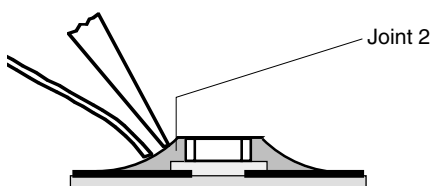

Fig. 5
5. step: Solder the free end of the CHIP and resolder the first soldering point after it has cooled (Fig. 5).